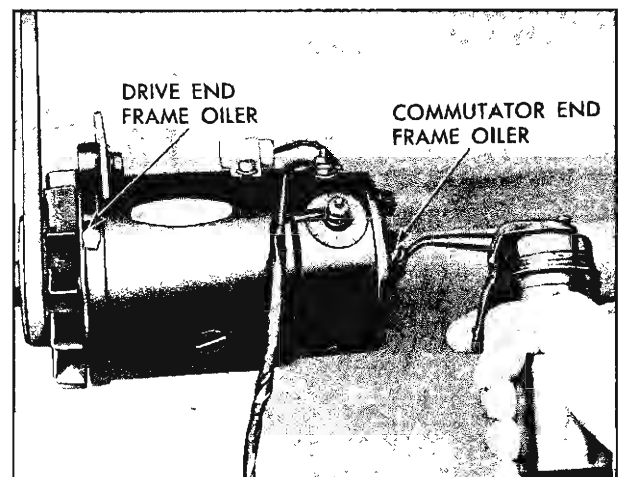

Fig. 9—Lubricating Generator
- d. Lubricate generator by filling hinge cap oilers with light engine oil (fig. 9).